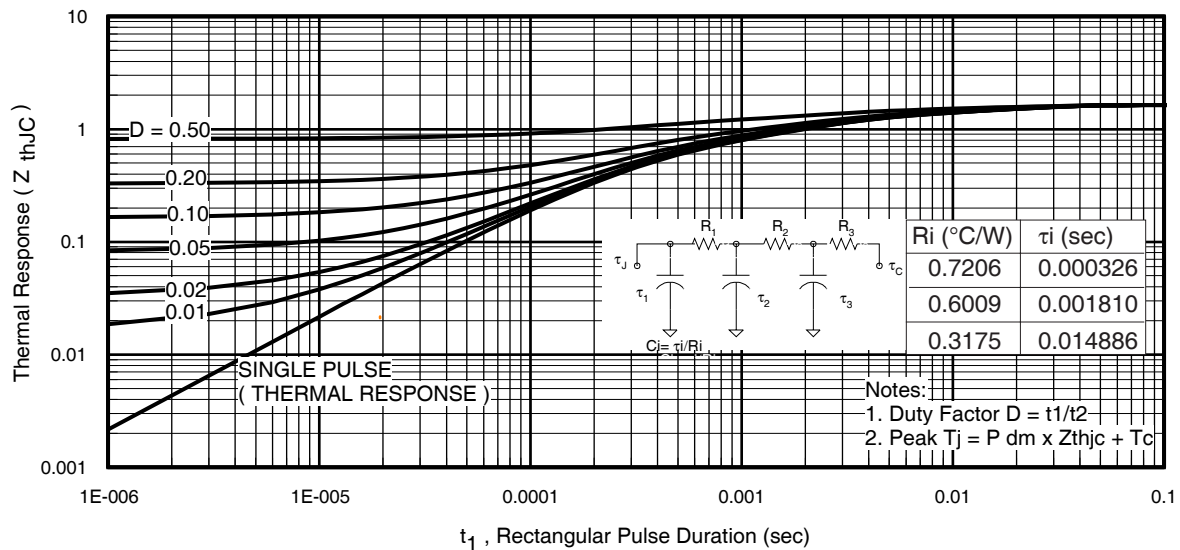
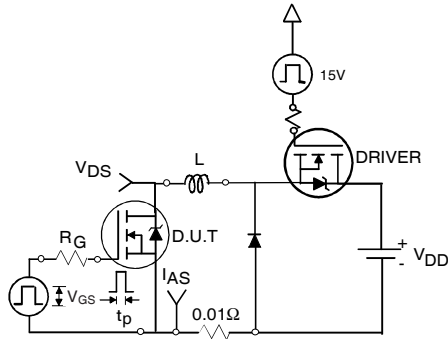

Fig 11. Maximum Effective Transient Thermal Impedance, Junction-to-Case
Fig 12a. Unclamped Inductive Test Circuit
3. Equation below based on circuit and waveforms shown in Figures 12a, 12b.
$Z_{thJC}(D, t_{av})$ = Transient thermal resistance, see figure 11)
- ① Repetitive rating; pulse width limited by max. junction temperature. (See fig. 11).
- ② Limited by T_{Jmax} , starting $T_J = 25^\circ\text{C}$, $L = 0.11\text{mH}$, $R_G = 25\Omega$, $I_{AS} = 37\text{A}$, $V_{GS} = 10\text{V}$. Part not recommended for use above this value.
- ③ Pulse width $\leq 1.0\text{ms}$; duty cycle $\leq 2\%$.
- ④ C_{oss} eff. is a fixed capacitance that gives the same charging time as C_{oss} while V_{DS} is rising from 0 to 80% V_{DSS} .
- ⑤ Limited by T_{Jmax} , see Fig.12a, 12b, 15, 16 for typical repetitive avalanche performance.
- ⑥ This value determined from sample failure population. 100% tested to this value in production.
- ⑦ When mounted on 1" square PCB (FR-4 or G-10 Material). For recommended footprint and soldering techniques refer to application note #AN-994
- ⑧ R_θ is measured at T_J approximately 90°C